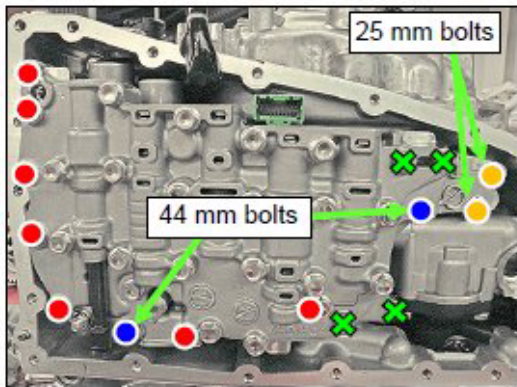

Figure 3
5. Install the Control Valve with eleven (11) mounting bolts (Figure 3).